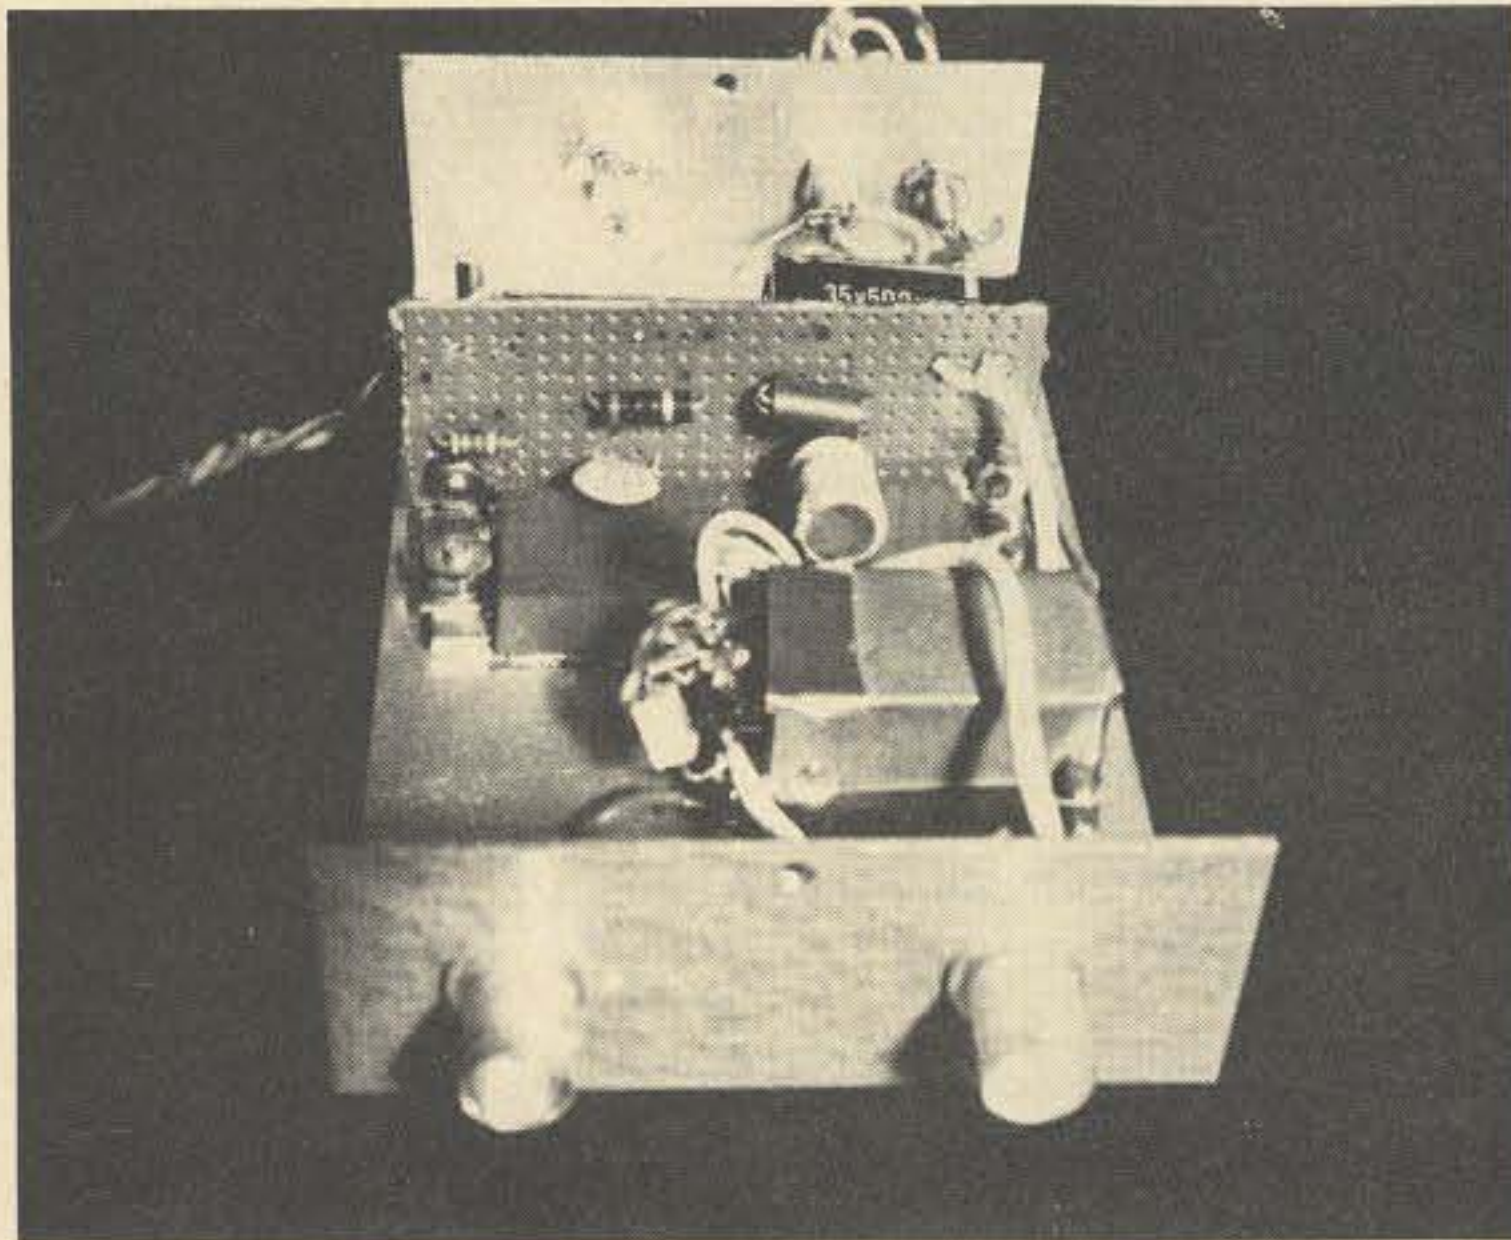

Fig. 8. PC board, prototype shown.
3. Using two #4-40 screws, lockwashers and nuts, bolt PC board to two "L" brackets as shown in Figs. 8 and 9.